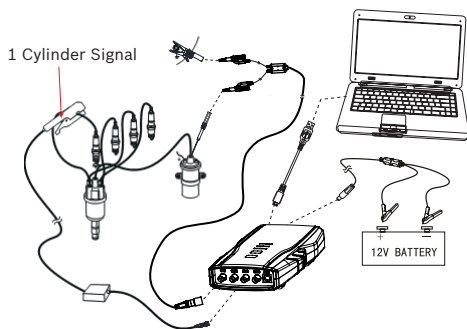

Fig. 55: Equipment connection
Connect one end of 1 cylinder signal to CH3 ofKT720 , use signal clip to clip high voltage line of one cylinder of engine. Please check that there is “This side faces to spark plug” on the signal clip, do not clip reversely. Connect BNC end ofKT720 oscilloscope probe to CH1, then connect the other end of the black banana plug and black alligator clip to negative pole of battery or grounding, and connect the other end of red banana plug and red banana socket into “IG-“ signal line of ignition coil, as shown Fig.55.
- Connect equipment according to Fig.55, switch on power supply.